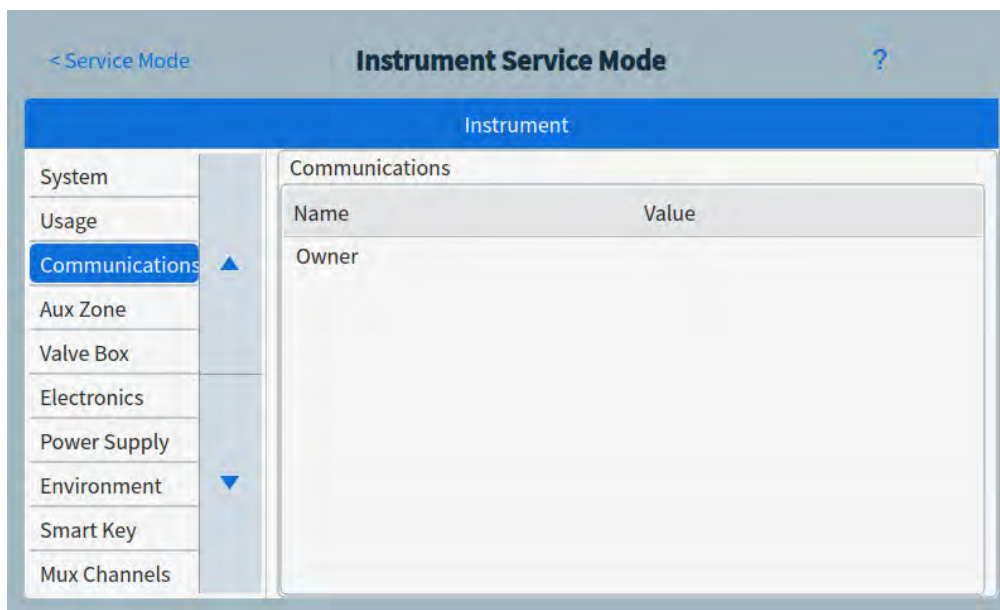

Figure 40. Instrument Service Mode page
- 1 Select the desired component type. The Service Mode page for the selected component appears. See **Figure 40**.